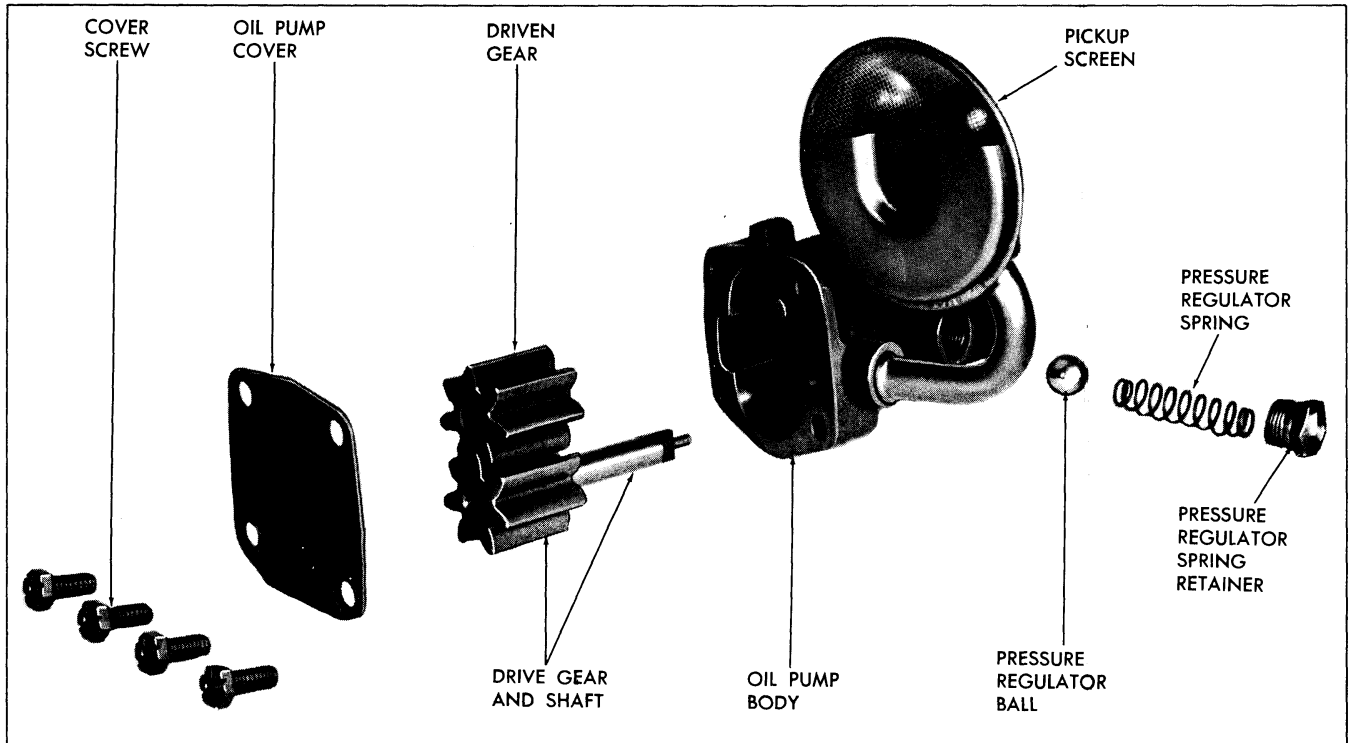

Fig. 6-56 Oil Pump—Exploded View
2. Inspect pressure regulator spring (Fig. 6-56) for distortion, cracks, and wear on sides.
5. Inspect pump gears and end of drive gear shaft for wear (Fig. 6-56).